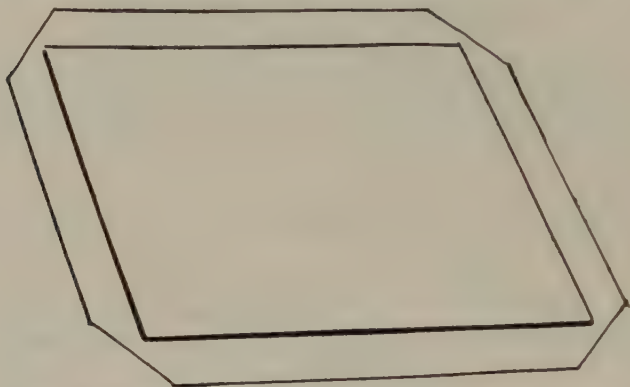

FIG. 71—FACE BOARD LAID ON GLUED-OFF FACE PAPER
3. Lay your face board on the glued-off surface, positioning it $\frac{3}{4}$ " from each edge as you have already marked on the paper. (Fig. 71.)